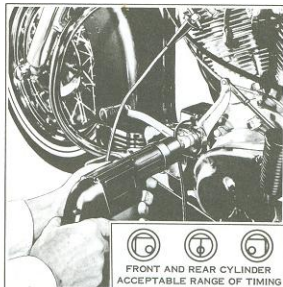

Figure 5-19. Checking Timing with Strobe Light
Use a strobe flash timing light (timing gun) to view advanced timing mark (12) on flywheel through accessory plastic view plug screwed into timing inspection hole (11) while engine is running at 2000 rpm. Timing light leads should be connected to front spark plug, ground and positive red wire to battery terminal. Light will flash each time spark occurs (see Figure 5-19). Loosen circuit breaker plate screws (6) just enough so circuit breaker plate (8) can be shifted using a screwdriver in notch (9) as light aimed into inspection hole (11) stops timing mark (12) in center of hole. Timing will retard 30° automatically when engine is stopped.
Rear cylinder advance timing mark is a single drilled dot which should appear on or near the front cylinder advance timing mark while viewing with timing light. See Figure 5-19.